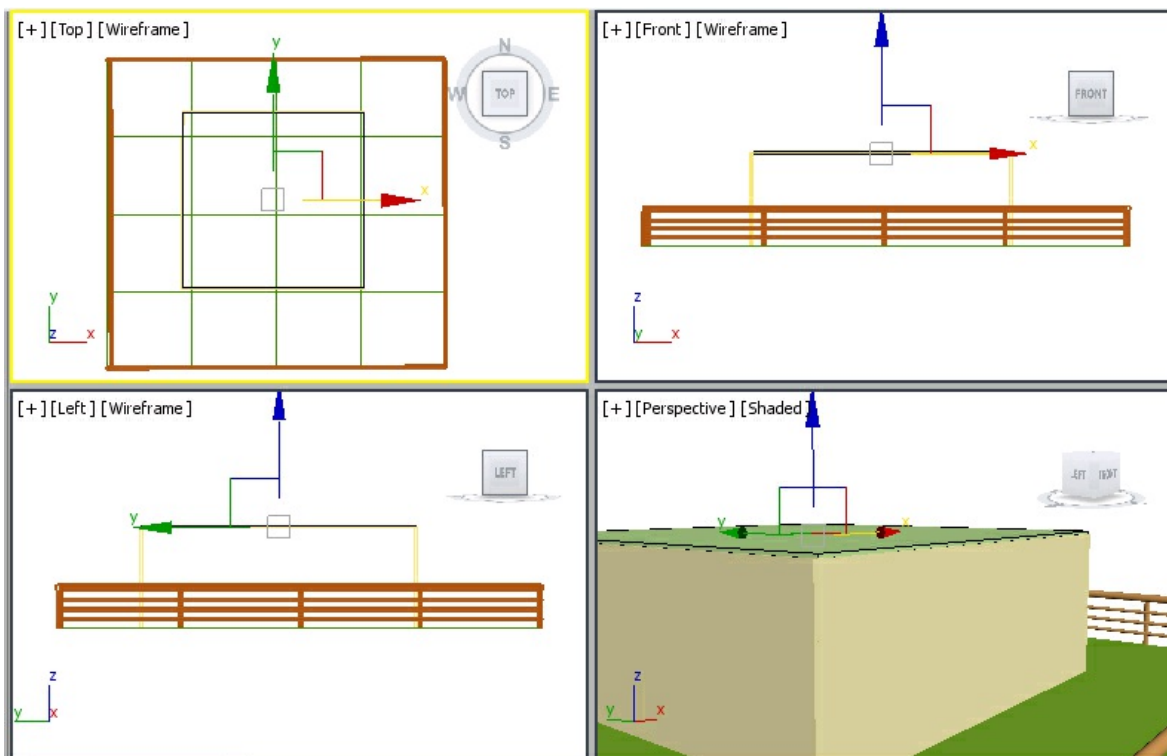

Figure 4-76 The roof geometry in viewports after alignment
12. Choose the **Select and Move** tool and align *roof* at the top of the wall in all viewports, refer to Figure 4-76.